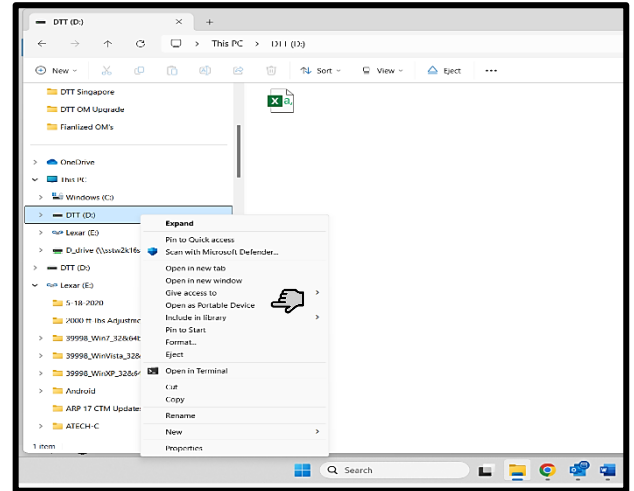

Figure 45: PC
7. Spread Sheet opens, click "Don't Convert" shown on Figure 45.